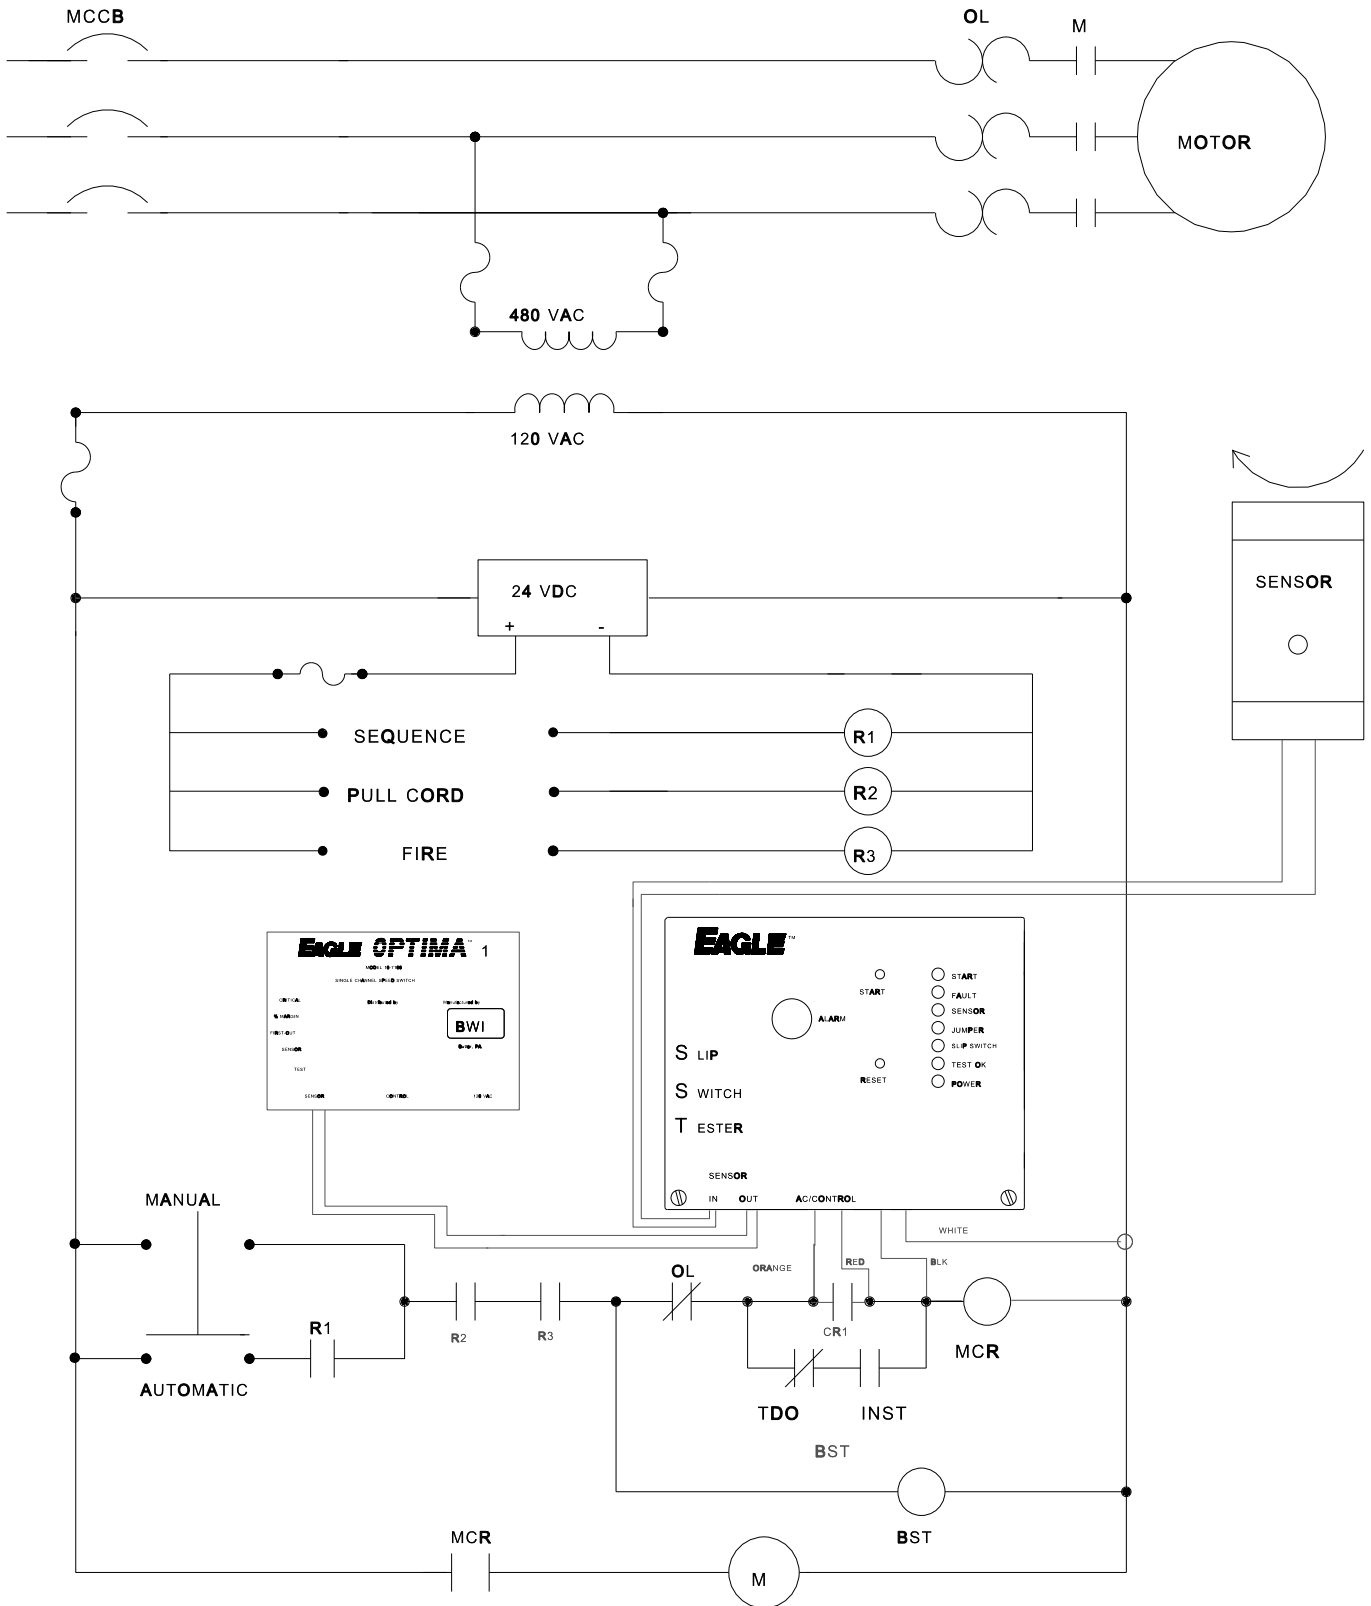

FIGURE 1
3. Locate the motor control relay in the starter box. Install the white and black wires from the 5-conductor cable to the 120 VAC coil terminals on the relay. (see Figure 1)
5. Connect the orange and red wires directly across the Slip Switch control relay contacts. (see Figure 1)
6. Connect the black and white sensor cable wires in parallel with the existing sensor wiring from the Slip Switch. Be sure to observe polarity. (see Figure 1)